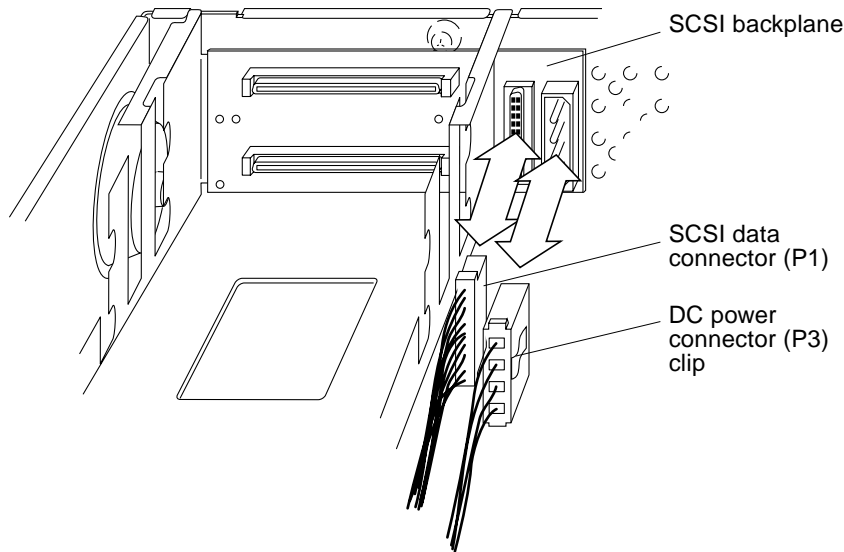

FIGURE 8-39 SCSI Backplane, SCSI Data, and DC Power Connectors
- 12. Remove the DC power harness from the metal cable guides (FIGURE 8-39).**
- 13. Disconnect the DC power connector (P3) from the SCSI backplane (FIGURE 8-39).**
1. Place the DC power harness and SCSI data cable as follows (FIGURE 8-39):
2. **Connect P3 to the SCSI backplane** (FIGURE 8-39).